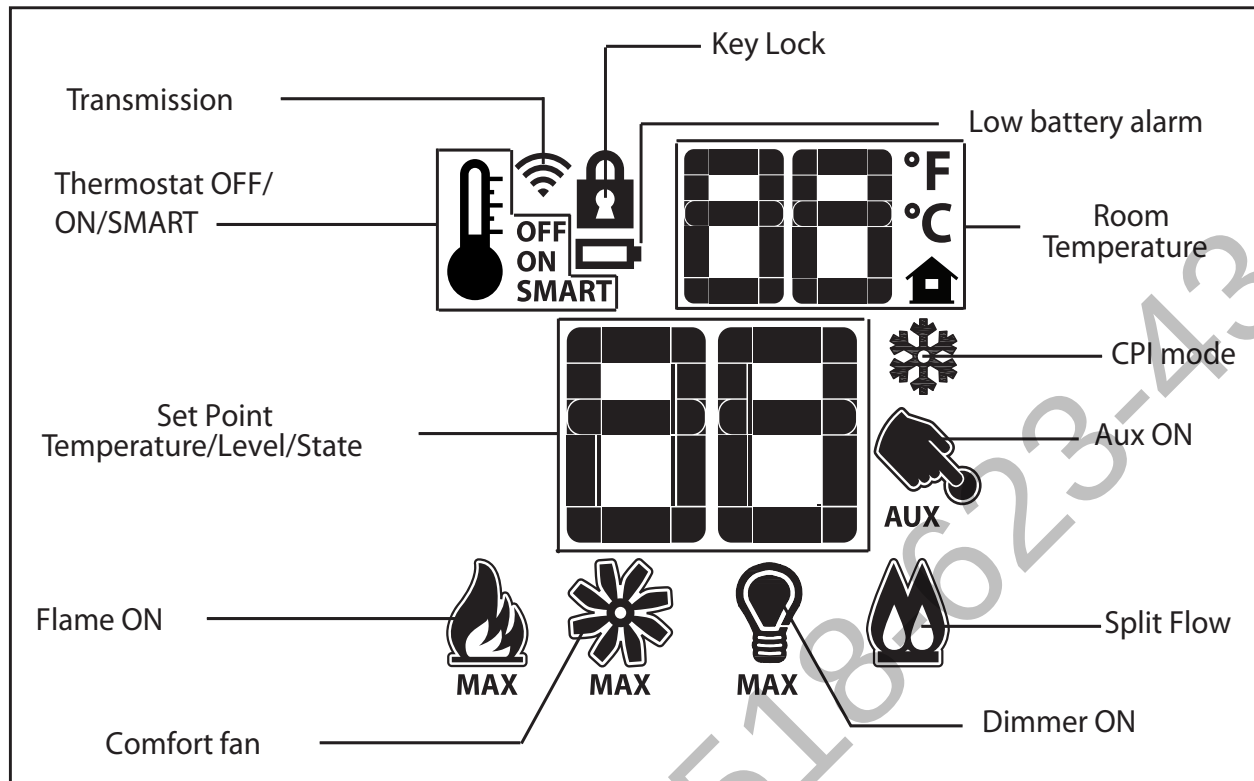

Figure 5: Proflame 2 Transmitter LCD Screen.
The Proflame 2 Transmitter is a black remote control with a blue backlit LCD display. It uses a streamline design with a simple button layout and informative LCD readout (Figure 5). The Transmitter is powered by three (3) AAA type batteries. A Mode Key is provided to Index between the features and a Thermostat Key is used to turn on/off or index through Thermostat functions (Figure 4 & 5)